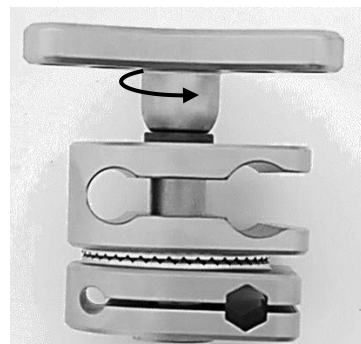

Fig. 20
Turn the star grip handle (1) anticlockwise until it can be removed (Fig. 20).